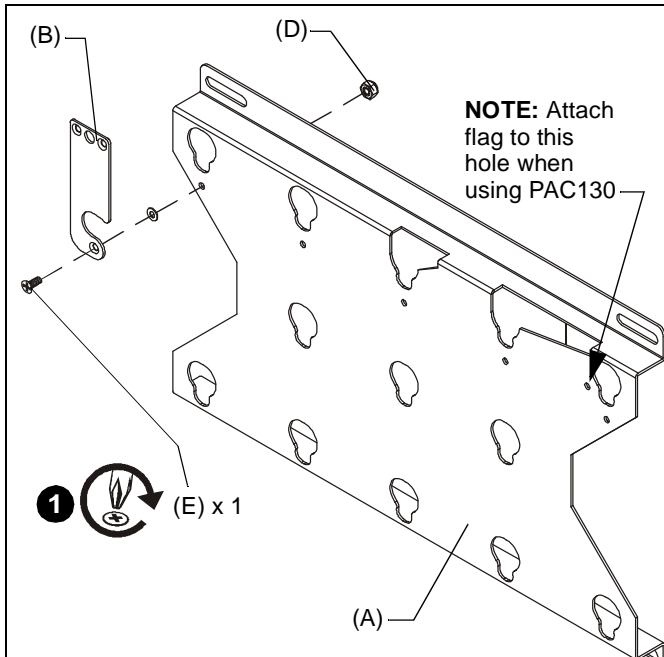

Figure 1
1. Attach latching flag (B) to mount (A) using 10-24 x 1/2" Phillips flat head screw (E), 0.194 x .375 x .032 spacer (C) and 10-24 nut (D). Tighten until friction holds the flag in place. (See Figure 1)